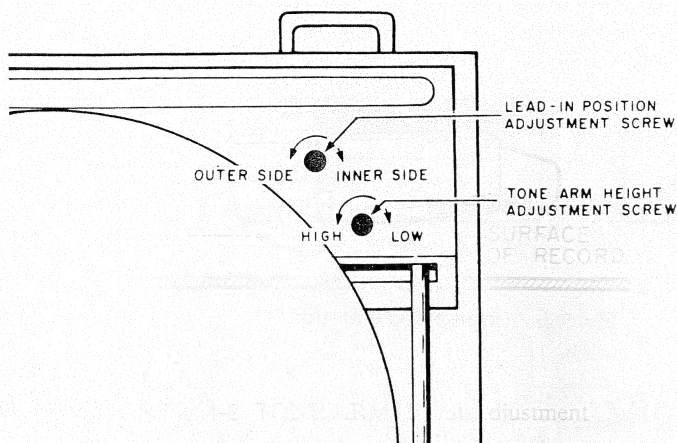

Fig. 4-1 Mechanical adjustment points
4-1. TONE ARM HEIGHT ADJUSTMENT (Refer to Fig. 4-1 and 4-2)
4-2. LEAD IN POSITION ADJUSTMENT (Refer to Fig. 4-1)
- 3) If the lead-in position is incorrect, it can be adjusted by turning the LEAD-IN ADJUSTMENT SCREW clockwise or counter clockwise as shown Fig. 4-1.